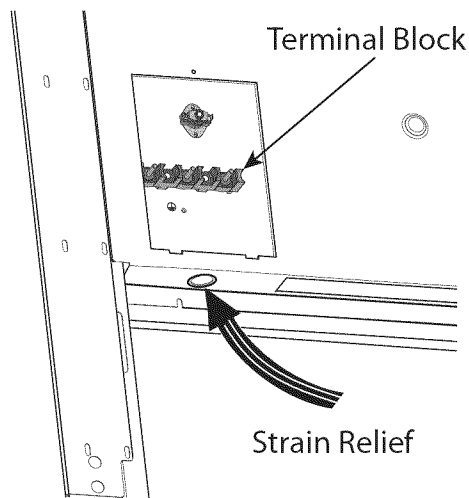

Figure 11: Strain Relief Location
Locate the terminal block on the rear of the unit and remove cover (refer to *Figure 11*). The conduit must be installed to the terminal block using an approved conduit connector. The free end of the conduit must be connected to a terminal block provided in the electrical supply zone, as shown in *Figure 4 on page 8*.
Mount a strain relief (not provided) into the 1" (25.4 mm) diameter hole located below the terminal block (see *Figure 11*). Wiring for the unit is to be brought into the terminal block through the conduit and through the strain relief. The ends of the wiring must have 1/4" (6 mm) faston closed-loop lugs attached, preferably soldered in place. Make the connections to the terminal block provided.
1. Locate the terminal block on the rear of the unit and remove cover (see *Figure 11*).